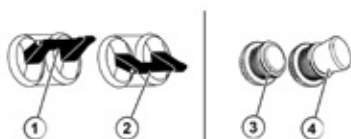

Figure 8 - Breakers
3. Make sure the circuit breakers are properly set (see Figure 8).
2. Make sure the circuit breakers are properly set (see Figure 8).